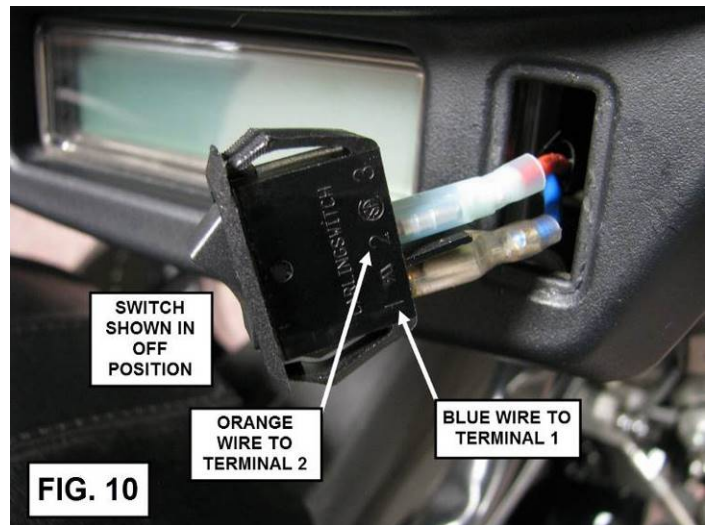

FIG. 10
23. TAKE THE THREE WIRE HARNESS WITH THE BLUE, ORANGE, AND GREEN WIRES AND ROUTE THE END WITH THREE FEMALE FLAT CONNECTORS FROM THE INSIDE OF THE DASH THROUGH THE SWITCH HOLE. SEE FIG. 10.
25. INSERT THE SWITCH INTO THE DASH WITH TERMINAL 1 AT THE BOTTOM OF THE SWITCH HOLE AS SHOWN IN FIG. 10.